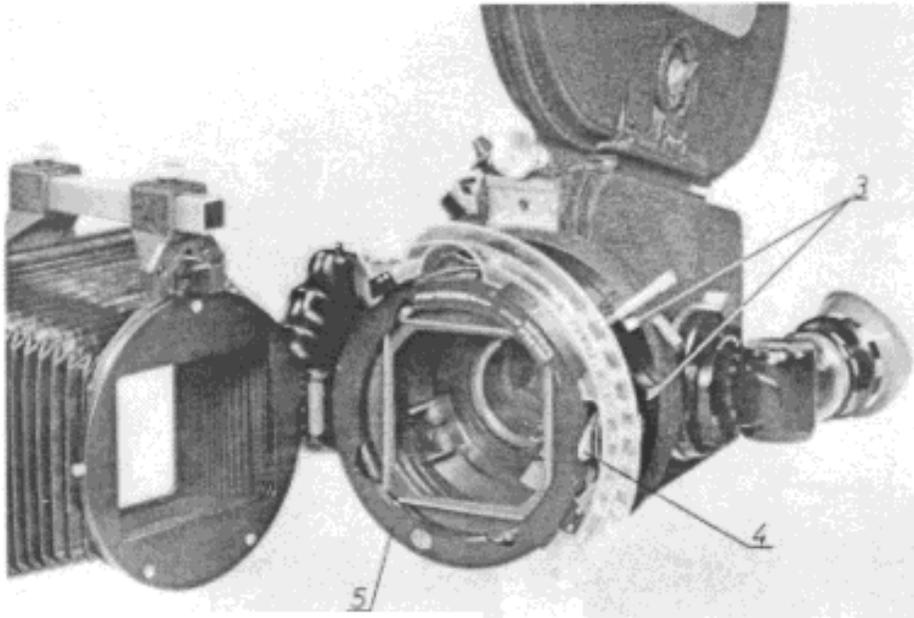

Fig. 3
11. Turn the locking ring (Fig. 1/3) to give a firm seating, loosen the. closure of the front door (Fig. 3/4), open the hinged door and remove the filter holder (Fig. 3/5) . Set focusing lever at infinity and swing out diaphragm driver (Fig. 4/7).
V. Insert the filter holder (Fig. 3/5) and close the front door (as for zoom lenses)